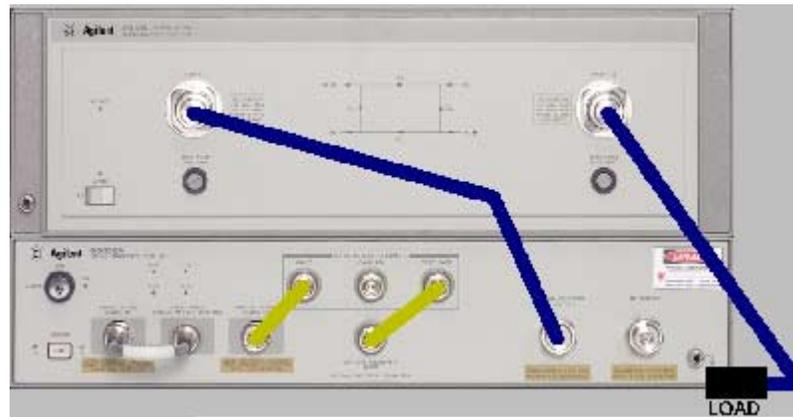

Figure 4-14. Connections for O/E Bandwidth Reflection Response Calibration (Std2), and O/E Bandwidth Reflection Response & Isolation Calibration (Std3, Std4)
Pre-Conditions: The connections in Figure 4-14 on page 4-55 have been made on the instrument.
- Pre-Conditions:** OEBWNRFPRESPNISOL_STD1 and OEBWNRFPRESPNISOL_STD2 have already been performed. The connections in Figure 4-14 on page 4-55 have been made on the instrument.
Pre-Conditions: OEBWNRFPRESNISOL_STD1, OEBWNRFPRESNISOL_STD2 and OEBWNRFPRESNISOL_STD3 have already been performed. The connections in Figure 4-14 on page 4-55 have been made on the instrument.